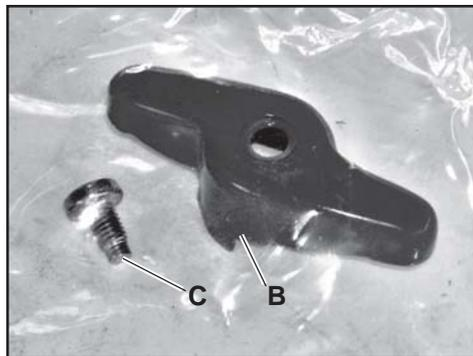

fig.2
step 1 - take the tap lever (**fig. 2, part B**) and screw (**fig. 2, part C**) that are bagged in the tool box (the tap is supplied disassembled form the lever for safety reasons to prevent accidental closing which can damage the pump);